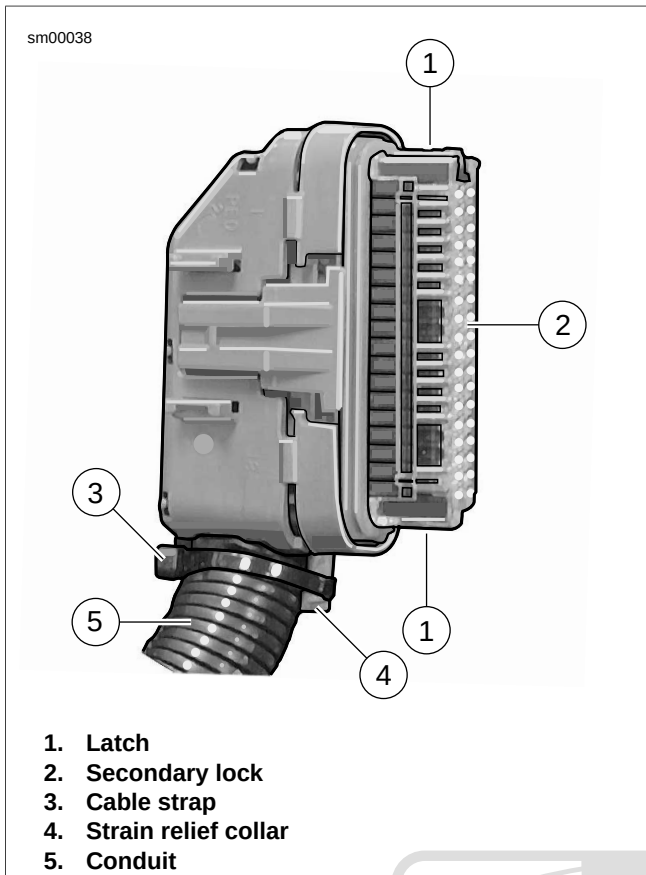
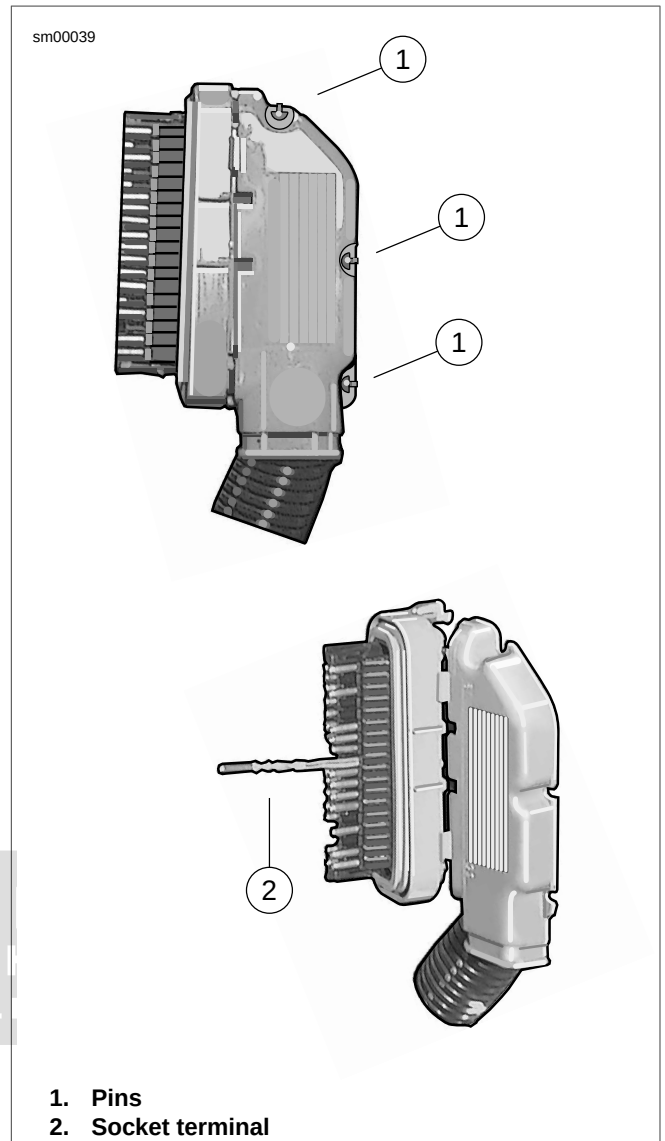

Figure A-41. Packard 100W Connector
Figure A-42. Packard 100W Connector: Separate Halves of Socket Housing
1. See Figure A-41. Gently depress latch (1) on each side of the clear plastic secondary lock (2) and remove. For best results, release one side at a time.
2. Carefully cut cable strap (3) to free strain relief collar (4) from conduit (5).
3. See Figure A-42. Using a thin blade, gently pry at seam at back of socket housing to release three plastic pins (1) from slots in housing. Separate and spread halves of socket housing.